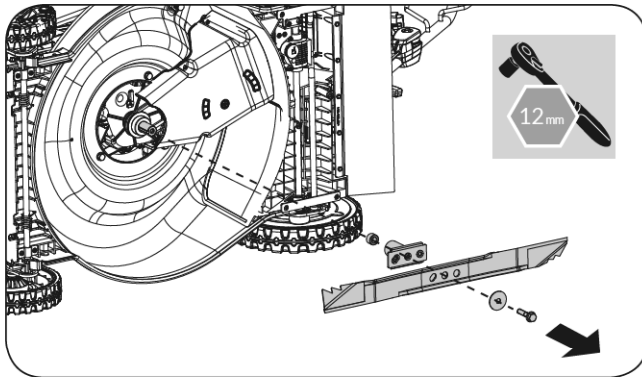

Figure 33
- Remove the blade. (See **Figure 33**)